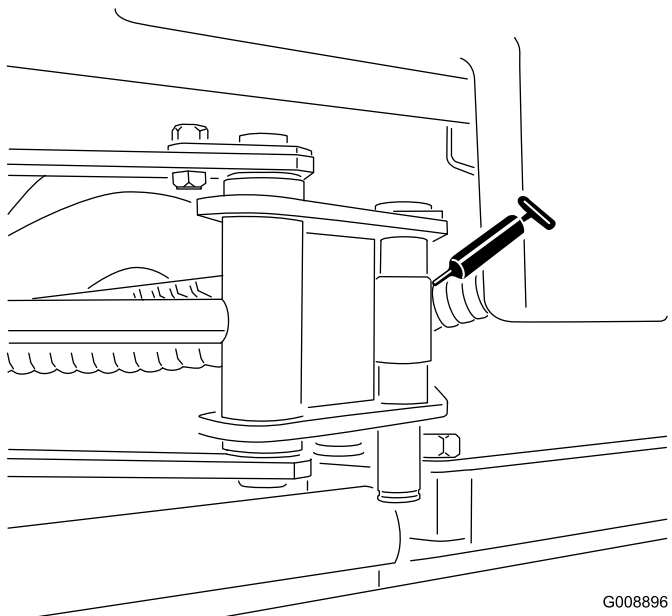

Figure 49
- SideWinder cylinder ends (2; model 03206 only) (Figure 49)